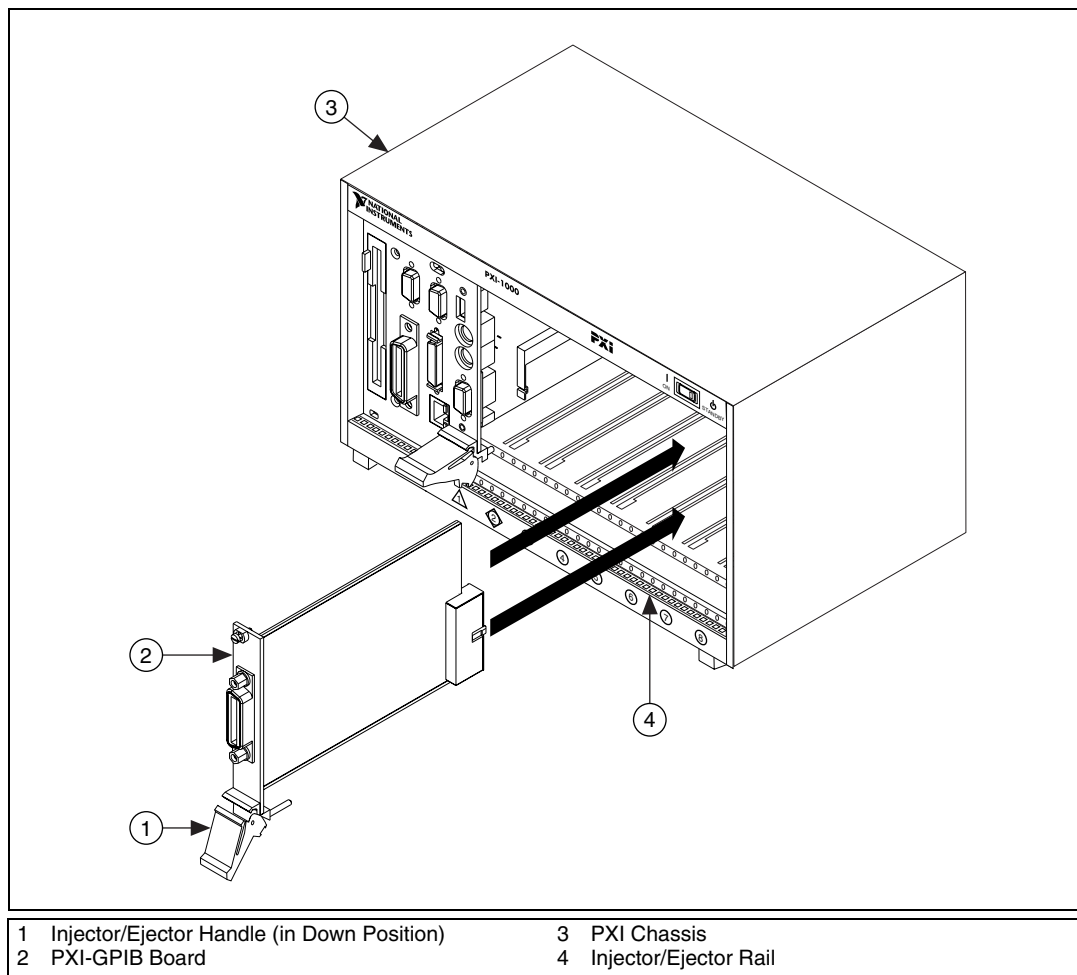

Figure 2-2. Installing the PXI-GPIB
7. Insert the PXI-GPIB into the selected 5 V slot. Use the injector/ejector handle to fully inject the device into place. Figure 2-2 shows how to install the PXI-GPIB into a PXI or CompactPCI chassis.